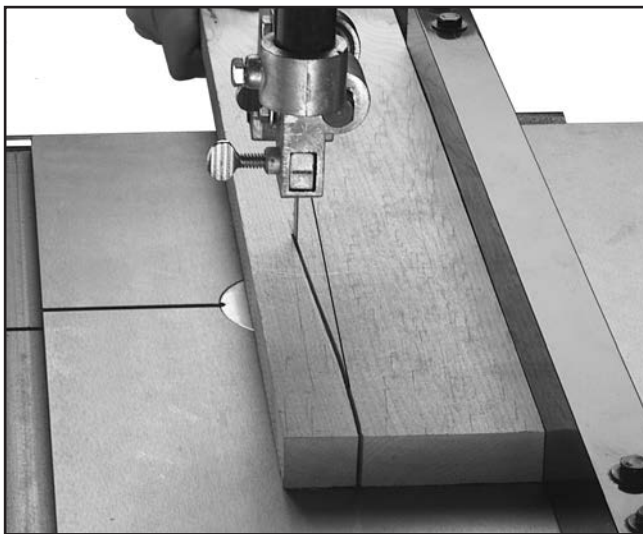

Figure 105. Example of blade leading away from line of cut.
"Blade Lead" means that the blade does not cut straight when using the fence or miter gauge (see **Figure 105**). This is a common condition with all bandsaws. Worn or damaged blades may cause lead, and replacing them will fix the problem. Still, if your bandsaw is set up correctly and blade lead occurs, compensate for it by skewing the fence.
2. On wide face of board, draw a straight line parallel to long edge, similar to layout line shown in **Figure 105**.